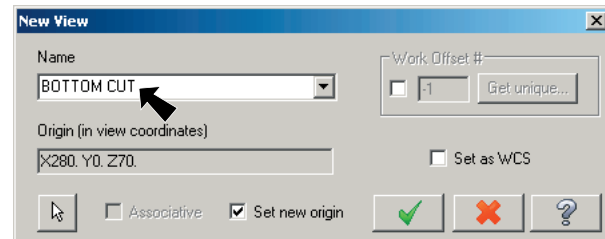

Fig. 55
Step 8. Key-in **BOTTOM CUT** for new view name in the New View dialog and click OK , **Fig. 55**.